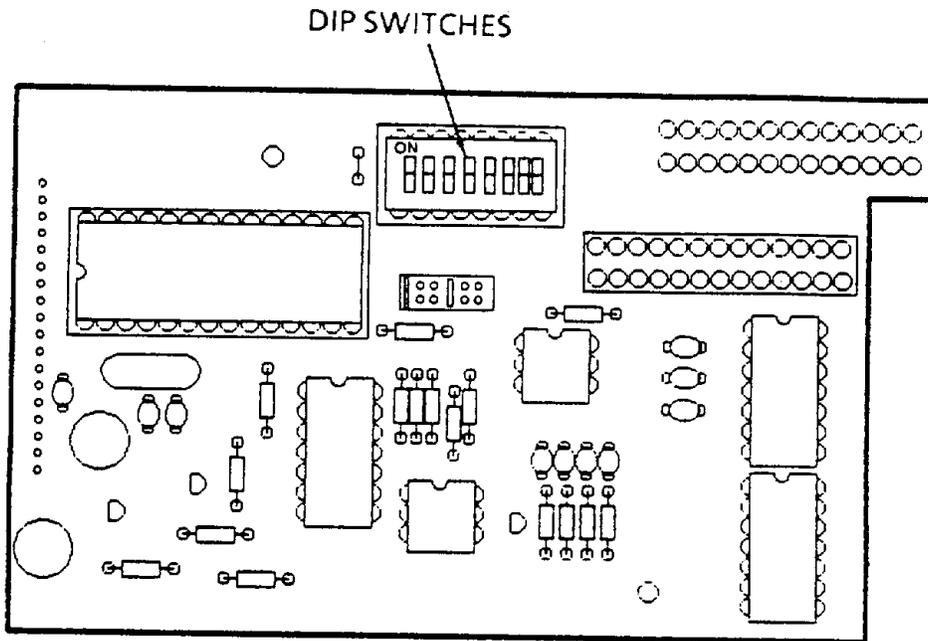

Figure 4-2. DIP Switch Locations
(1) Checking DIP Switches. DIP switches inside the printer are preset at the factory To ensure that the switches are in the correct positions, proceed as follows:
- (c) Locate DIP switches. See figure 4-2.